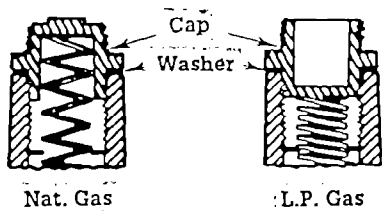

Figure 5
1. Remove the cap marked 'NAT.' and turn it over so it reads 'L.P.'. Then replace the cap. Do not disturb or remove the spring beneath the cap. Check that the fiber washer is between the cap and the body of the regulator. See Figure 5 for the correct position of the cap.